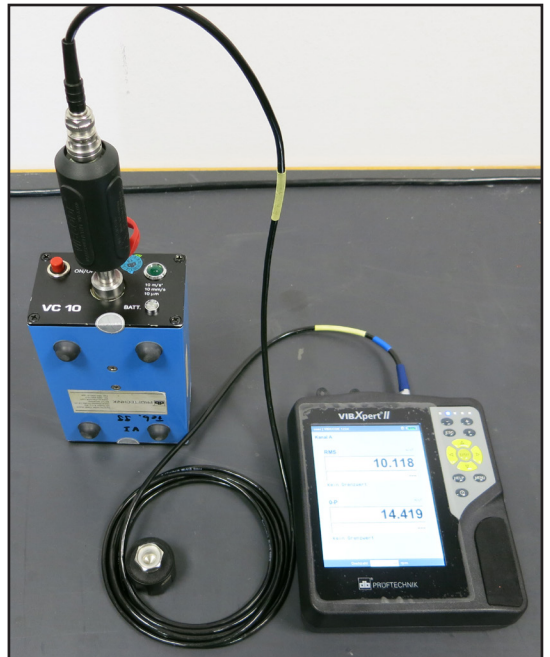

Fig. 3: Test setup, vibration sensor
- Plug the VIBCODE sensor into the VIBCODE measuring point (Fig. 3).